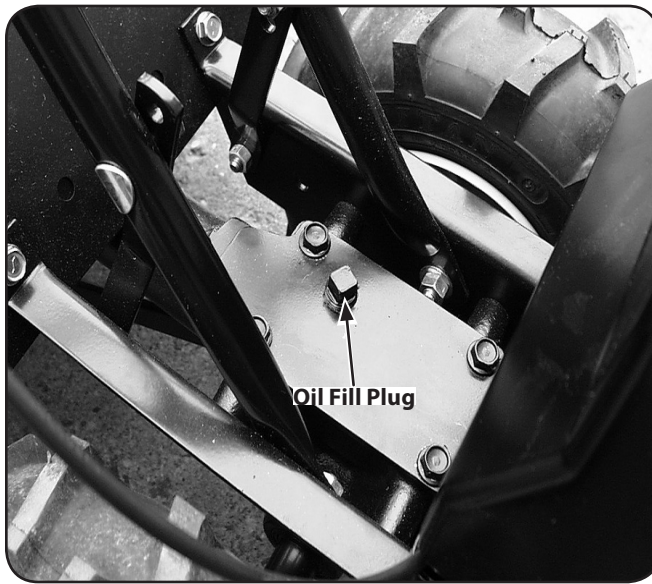

Figure 6-1
3. Remove the oil fill plug from the transmission housing and look inside the oil fill hole to locate the main drive shaft situated below the hole. Refer to Fig. 6-1.